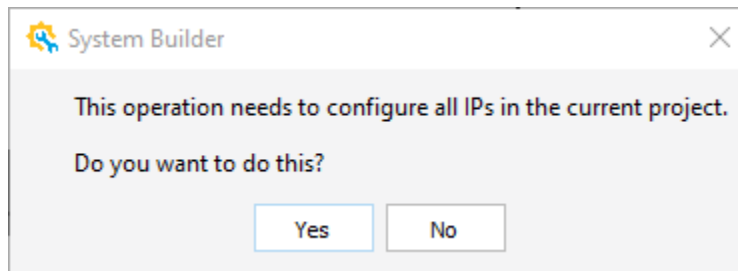

Figure 2.37 System Builder Dialog
- Click **OK**. The System Builder dialog (Figure 2.37) pops up to show the warning message about configuring all IP.